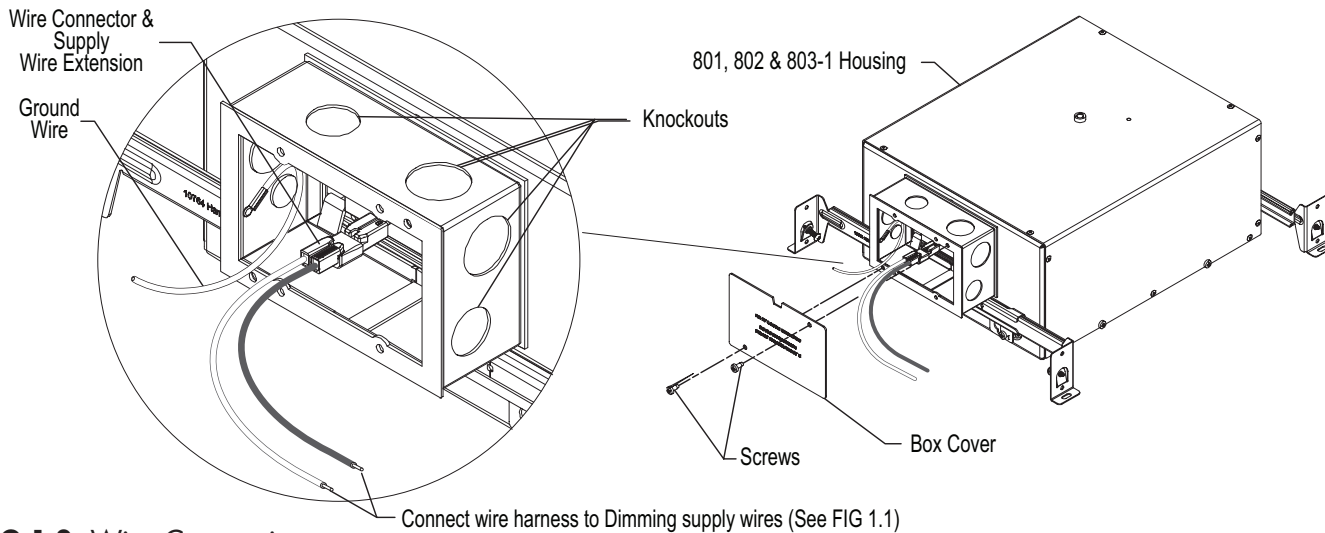

FIG 1.2 Wire Connections
2. Connect driver output wires using electrical connectors at Mounting Bracket – FIG 1.2.
3. Push all wires & connections completely inside wiring compartment – FIG 1.2.
4. Install Cover using screws provided – FIG 1.2.